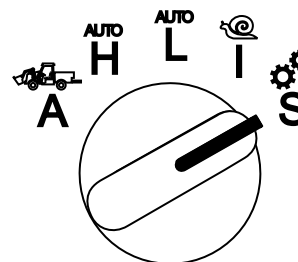

Figure 18
1. Rotate the operation-mode selector to the S position (Figure 18).